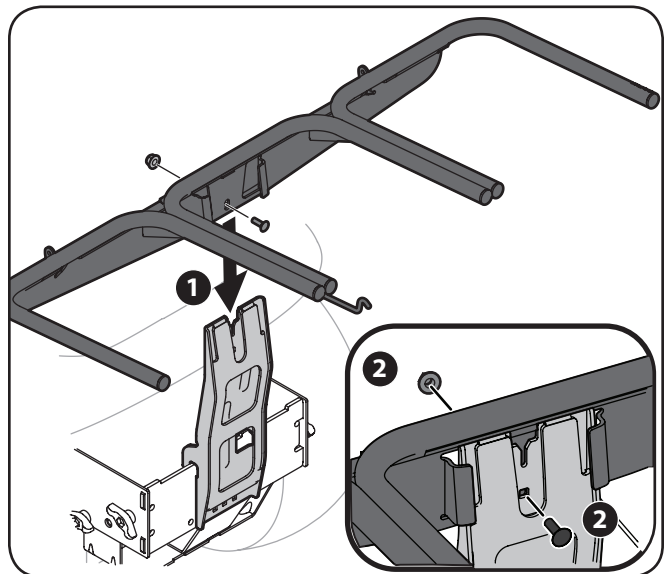

Figure 4-6
6. Using a 1/2" wrench or socket, secure the hanger assembly to the upright mounting assembly using another (710-0276) carriage bolt from hardware pack 689-00328A and flange lock nut packed in with the upright mounting bracket. See Figure 4-6.